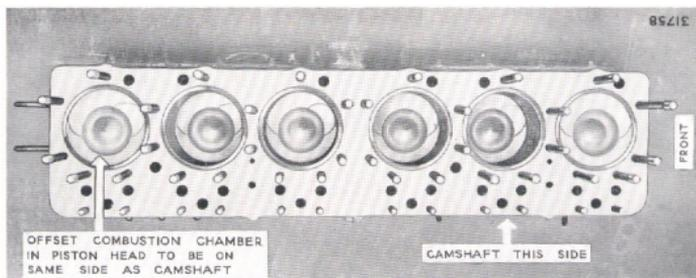

Fig. 43. Position of offset combustion chambers in piston heads in relation to the camshaft.
2. Fit pistons to connecting rods with the offset combustion chamber in the piston heads on the same side as the oil spray hole in the connecting rod big-end (Fig. 43).